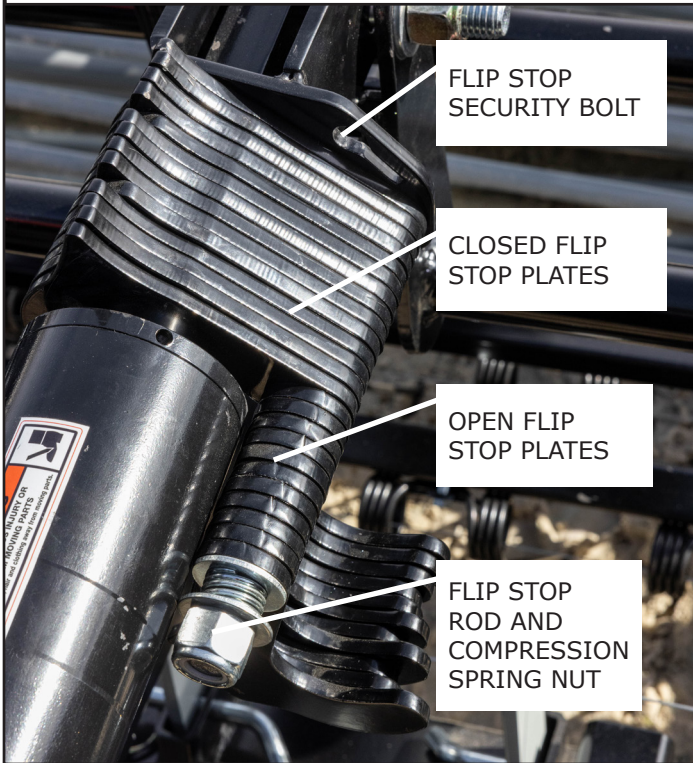

Fig 5
2. Remove the Flip Stop security bolt. (**Fig 5**)